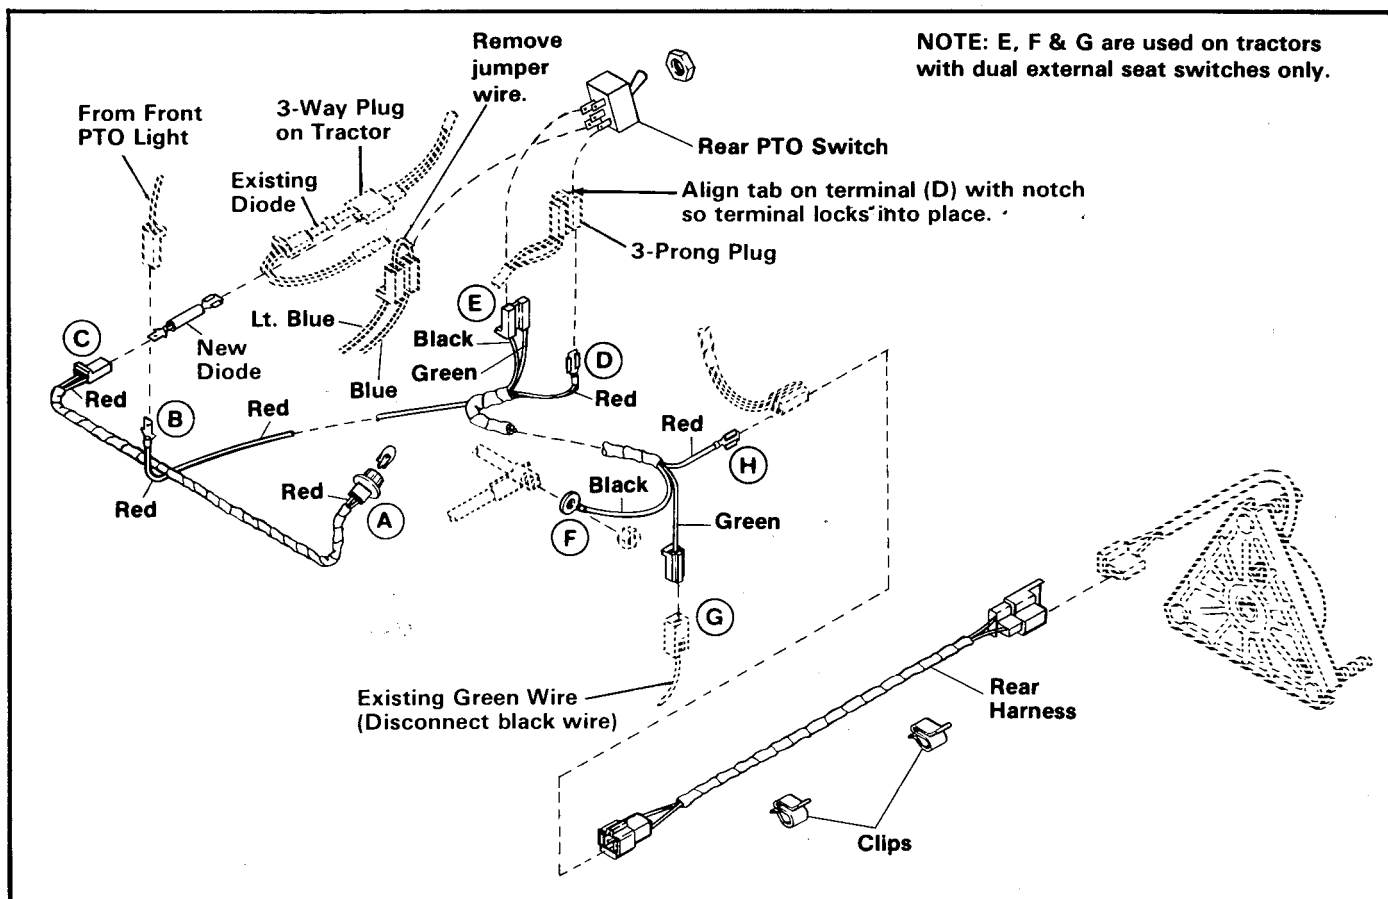
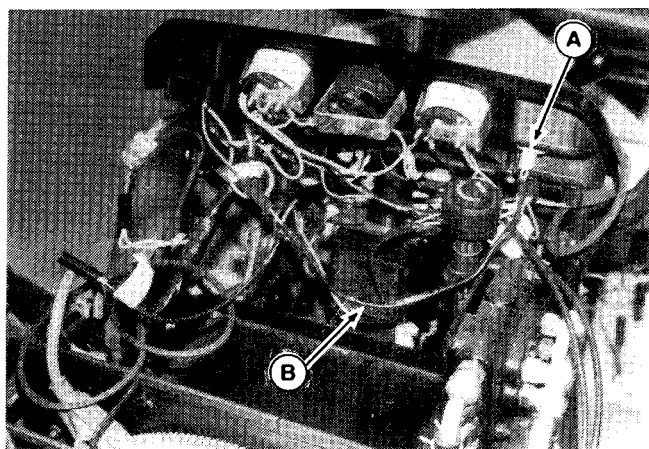
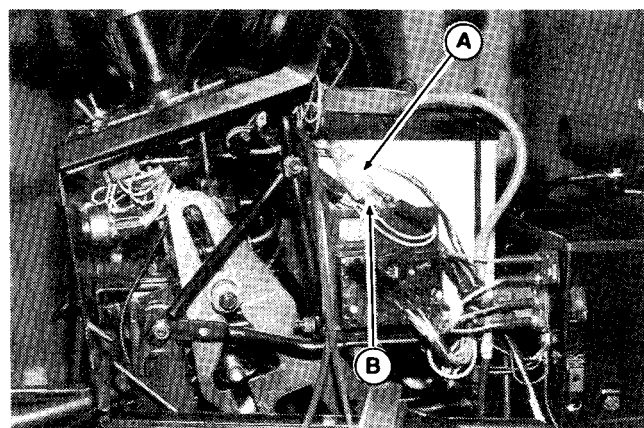
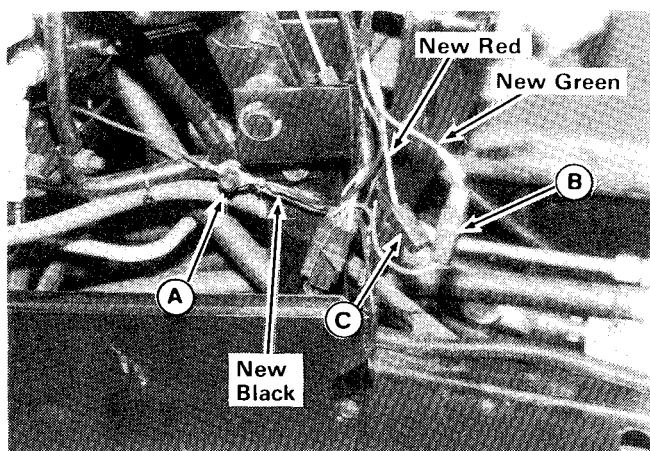

Figure 3.
Figure 4.
Figure 5. A. Plug B. Insert diode
Figure 6.
7. Install bulb into receptacle (A, figure 3) by pushing in. Install receptacle (A, figure 4) into hole by aligning tabs and turning.
8. Route the harness (B, figure 4) over to right-hand side of tractor in front of steering column. Connect red wire (B, figure 3) to the red wire hanging from the front PTO light..
9. Locate the 3-way plastic plug (A, figure 5) on the tractor. Insert the new diode into the empty hole (B, figure 5) beside the existing diode. Then, connect the double-red wire (C, figure 3) to the new diode.
11. Route the harness (D & E, figure 3) to rear of steering column and over to the rear PTO switch.
12. Locate the black, 3-prong plug which hangs loose under dash near the rear PTO switch. A green wire is in one prong, double-brown wires in one prong and one prong is empty. Insert the red wire (D, figure 3) into the empty prong; same side as existing wires. Be sure to insert wire (D) with tab same direction as notch in 3-prong plug (notch visible from opposite side). The wire will snap into locked position. Test by trying to pull wire out; you should not be able to pull it out.
14. On models equipped with 2 external seat switches, connect the 2-prong plug (E, figure 3) onto the 2-prong side of the rear PTO switch. On models equipped with singular internal seat switch, locate 2-prong plug with jumper wire that hangs loose under dash near the rear PTO switch. A blue wire is in one prong and a light blue wire is in the other prong (see figure 3). Remove the jumper wire and connect this 2-prong plug onto 2-prong side of rear PTO switch.
15. Route the remaining three wires of the harness (F, G, H, figure 3) over to left side of dash (figure 6), behind steering column.
The black wires (E, F, figure 3) and green wires (G, figure 3) mentioned in steps 16 & 17 are not required for tractors equipped with internal seat switch (mfg. nos. 1691250 and higher). Black and green wires are required for dual external seat switches.
16. Remove the nut (A, figure 6) and place the round terminal (F, figure 3) onto the threads. Re-install the nut.
17. In the existing tractor harness, on left-hand side (figure 6) disconnect the green wire from the black wire. Connect the green wire (G, figure 3) from new harness to the green wire. This connection is "B" in figure 6. The black wire will hang loose.
18. Locate the plug (C, figure 6) in existing harness that has double black wire in one side. Connect the red wire (H, figure 3) into the plug beside the double black wires. As in step 12, be sure prong on terminal (H) is on same side as notch in plug. It will snap into locked position. Then, connect plug (C, figure 6) to the rear harness from kit.